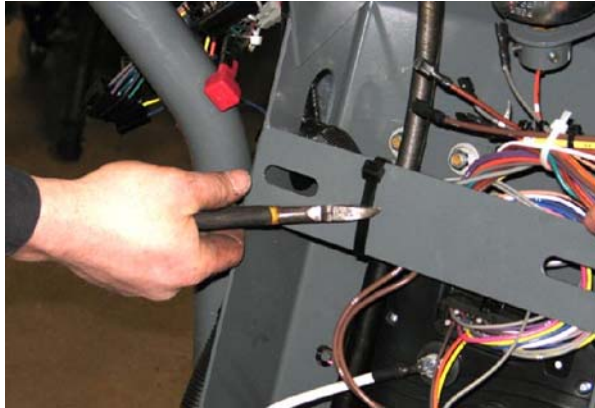

FIG. 14
14. Cut the cable ties from both steering channel cross members. (Fig. 14)